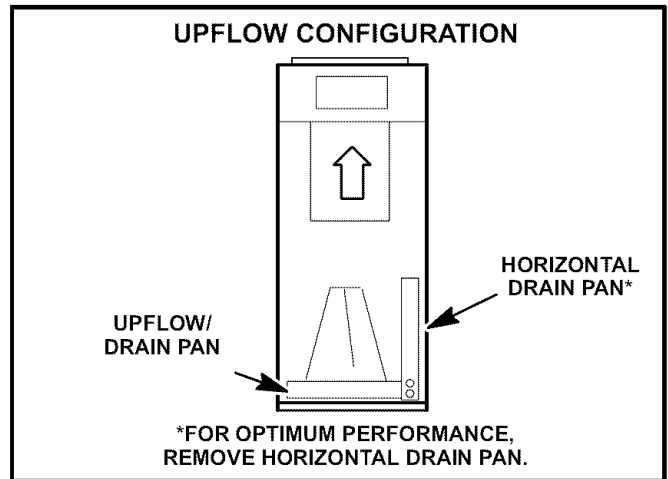

FIGURE 1
- 3 - Place unit in desired location. Make sure that unit is level. Connect return and supply air plenums as required using sheet metal screws. See figure 1.